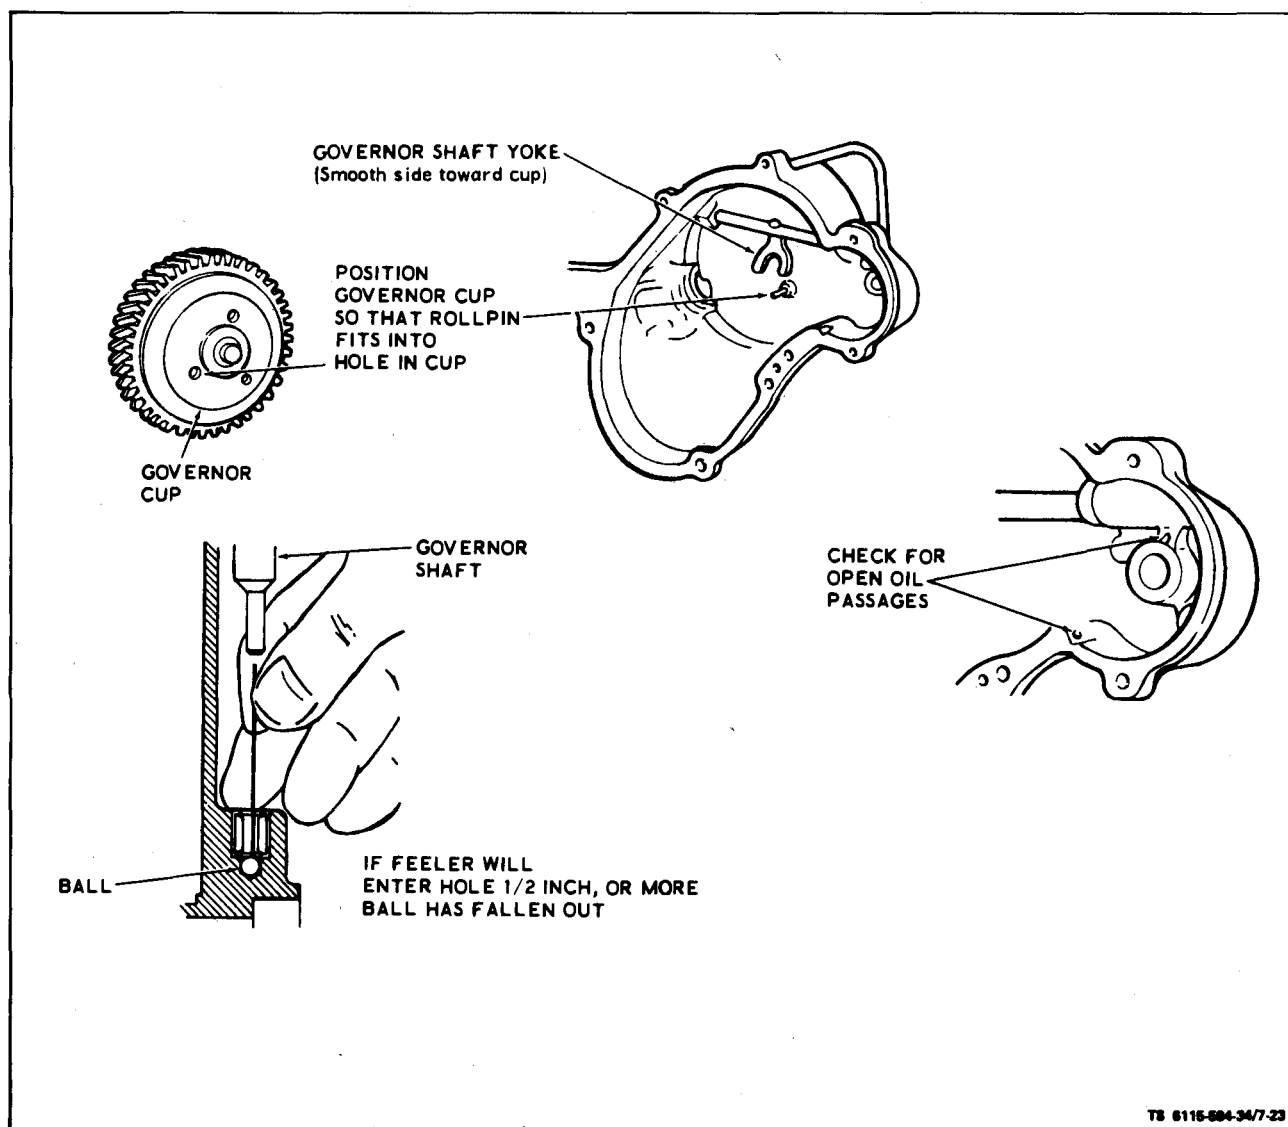

Figure 7-23. Gear Cover Inspection
(1) Work governor shaft to check for binding and see that governor-shaft-end-thrust ball is in place (see figure 7-23).
(3) Turn governor cup so the stop pin (figure 7-23) in the gear cover will fit into one of the holes in cup surface. Measure the distance from end of roll pin to mounting face of the cover. It should be 25/32 inch. If it is not, replace pin. Pin should be positioned with open end facing crankshaft seal.